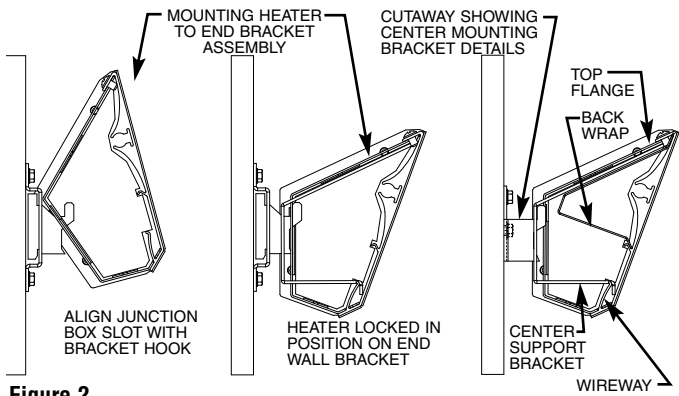

Figure 2
- To mount cove heater, attach center support bracket to the center wall bracket by tilting the heater back and allowing the upper slot to fall onto the bracket hook per Figure 2. Attach the junction boxes to the end wall brackets in a similar manner. Bring the cove heater forward to lock into place.
- To mount cove heater, attach center support brackets to the center wall brackets by tilting the heater back and allowing the upper slot to fall onto the bracket hook per Figure 2. Attach the junction boxes to the end wall brackets in a similar manner. Bring the cove heater forward to lock into place.